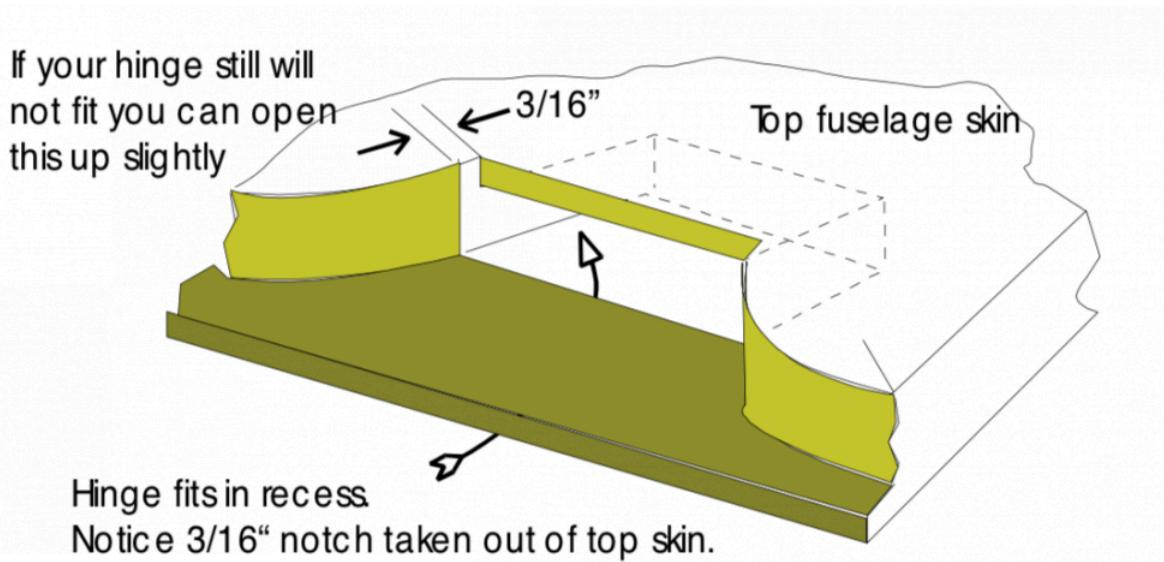

Figure 5-12. Hinge Pocket
- ___ Trim about 3/16" inboard, 2" wide, from the fuselage hinge areas for clearance of the hinge pivoting portion. This notch is shown in Figure 5-12. Using hot glue and tongue depressors glue your door back into the door openings as you did with the cutout earlier.